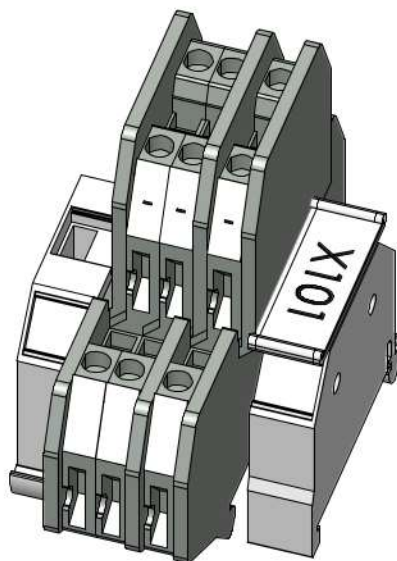

Fig. 28: Analog outputs
The maximum load for the isolated 0 / 4-20 mA current loops is 500 ohms. The type of analogue output (0-20 mA or 4-20 mA current loop) can be set in the software. If the output is set to 4 - 20 mA, a so-called "live zero feature" can be set in the operating software. This means that instrument errors are output at 0 mA. The conditions of the error display can be programmed individually in the operating software. The analyser mounting plate (Fig. 22, page 37) contains the X101 terminal strip for the analog outputs (Fig. 28, page 44). The individual terminals of X101 are labeled. The first digit stands for the sample flow (PS) and the second for the outgoing parameter.